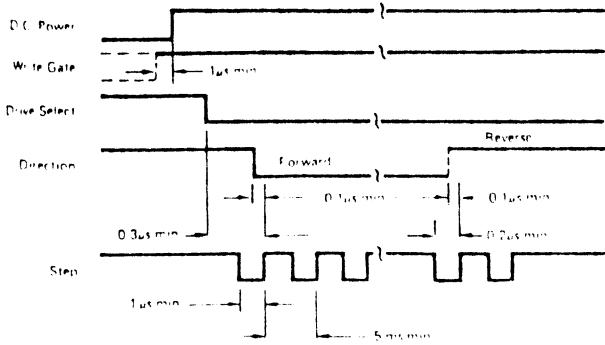

Figure 3-1 Track Access Timing
3.2.5 Direction select. The direction of motion of the Read/Write head is defined by the state of this input line. A true (low) level defines direction as "IN" towards center of the disk; a false (high) level defines the direction as "OUT" (see Figure 3-1).
3.2.6 Step. Together with the direction line, a single pulse on this input will move the Read/Write head one cylinder in or out, dependent on the state of the direction line. The motion of the head is initiated on the trailing edge of step pulse. A minimum of $0.2 \mu\text{s}$ pulse width at a maximum frequency of 200 Hz should be maintained to assure step integrity (see Figure 3-1).